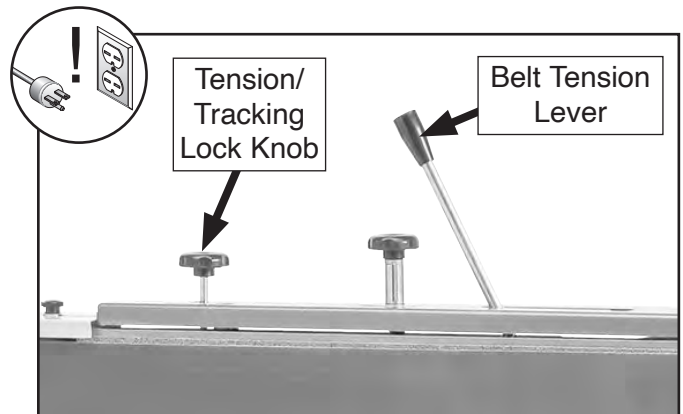

Figure 33. Location of tension/tracking lock knob and tension lever.
2. Loosen tension/tracking lock knob, then move belt tension lever toward motor to release tension (see **Figure 33**).